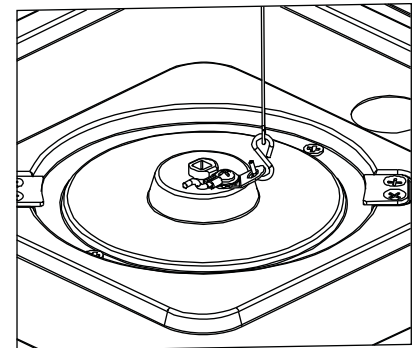

Figure 3
3. Before making wire connections, attach Fixture Assembly (6) to hook side of the Tether Cable (2) making sure it is secured properly. See Fig. 3.